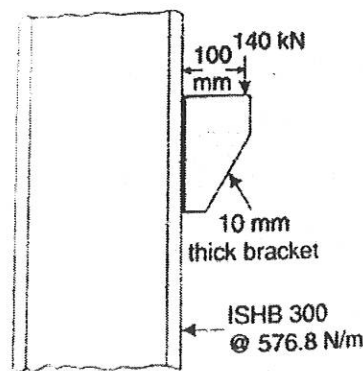

Fig. 2
- (b) A bracket plate 10mm thick is used to transmit a reaction of 140 kN at an eccentricity of 100mm from the column flange as shown in Fig.2. Design the weld.